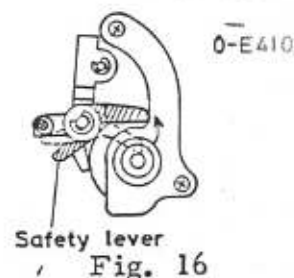

Fig. 16
* Let off Safety lever to upper position when remove 0-E410, as shown in Fig. 16.